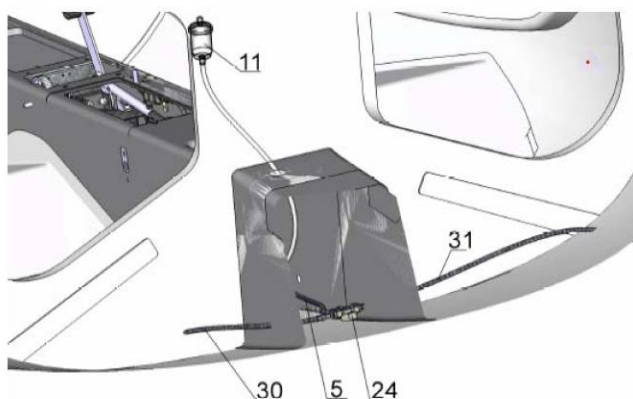
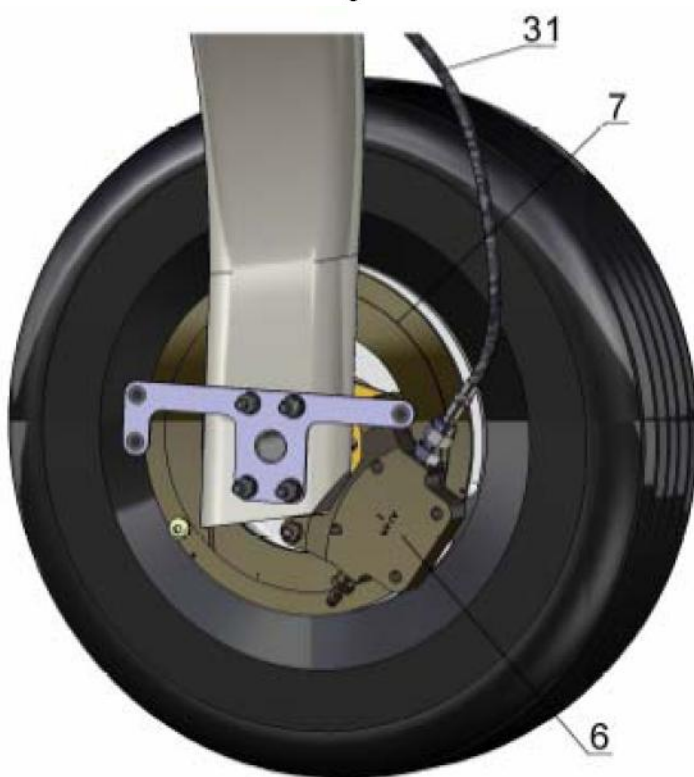
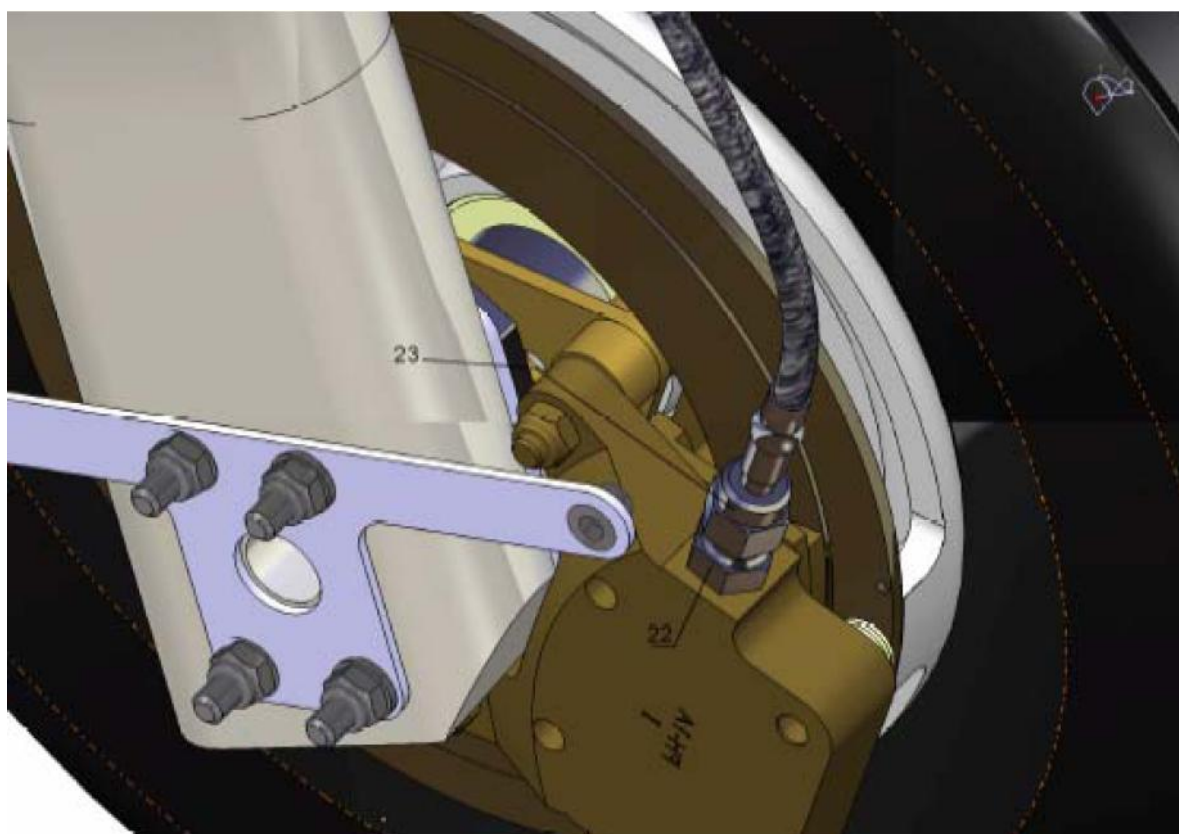

Fig 2
Fig 3
Fig 5
- 1) Check level of brake fluid inside of the tank item 11 fig.2 (has to be not less $\frac{1}{2}$ of tank) visually, add fluid if necessary;
- 3) Check for sign of leakage nearby brake calipers, brake lines connection (fig.1, fig.2, fig.3). Replace connectors and sealing washers if necessary;
Brake system assembling is shown on fig.1, fig.2, fig.5.